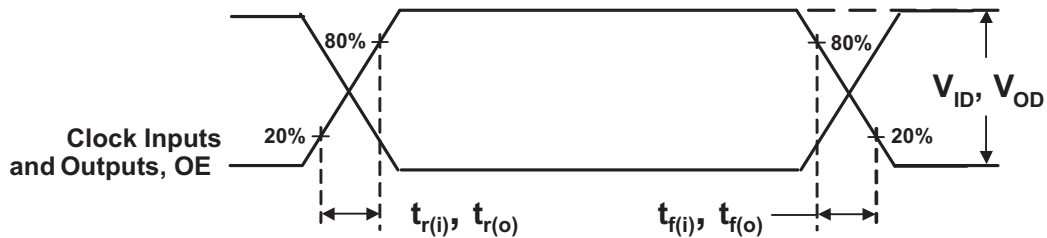

Figure 9. Input and Output Slew Rates
(1)  $V_{OD}$  is the magnitude of the difference between the true and complimentary outputs. See Figure 9 for a definition.
(2) Total  $I_{DD} = I_{DDQ} + I_{ADD} = f_{CK} \times C_{PD} \times V_{DDQ}$ , solving for  $C_{PD} = (I_{DDQ} + I_{ADD}) / (f_{CK} \times V_{DDQ})$  where  $f_{CK}$  is the input frequency,  $V_{DDQ}$  is the power supply, and  $C_{PD}$  is the power dissipation capacitance.